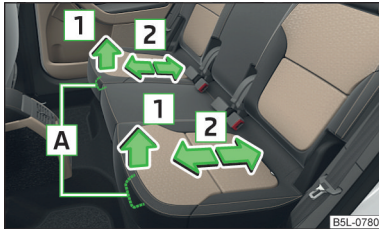

Fig. 69
- › Pull lever **A** in the direction of arrow **1** and move the seat to the desired position in the direction of arrow **2** » Fig. 69.